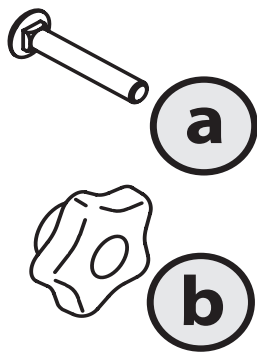

Figure 1
1. Remove the carriage screws (a) and star knobs (b) from the carton. See Figure 1.